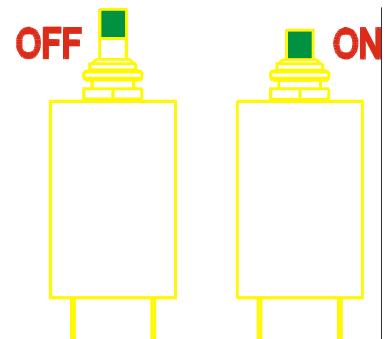

Fig. 16
- ⇒ Press ON/OFF circuit breaker firmly and release so that only the black part of the button is visible. Now the ignition circuit is closed and the battery supplies the ignition system with voltage (fig. 16).
- ⇒ Firmly press and release button of ON/OFF circuit breaker. The black end and the white ring marking of button are visible (fig. 16), indicating that the ignition circuit is open, and that the engine will stop.